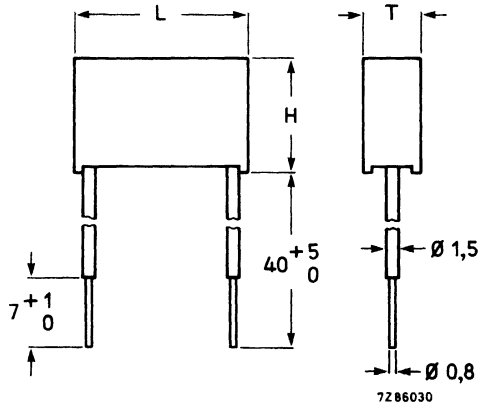

Fig. 3 Capacitors 2222 330 8
Table 3 U_R (AC) = 250 V, Fig. 3